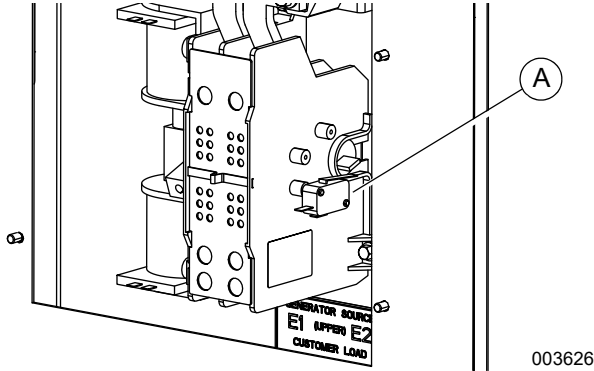

Figure 3-6. Auxiliary Contact
See **Figure 3-6**. If desired, there is one normally-closed Auxiliary Contact (A) on the transfer switch to operate customer accessories, remote advisory lights, or remote annunciator devices. A suitable power source must be connected to the common terminal. If needed, an extra auxiliary contact can be added.